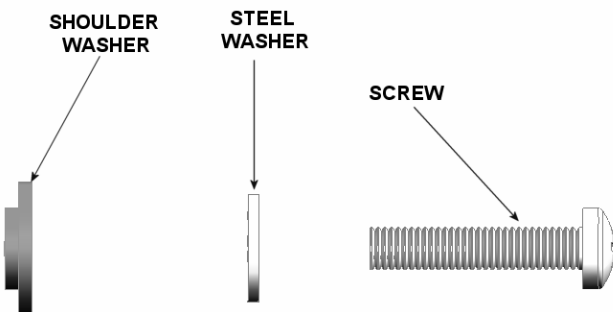
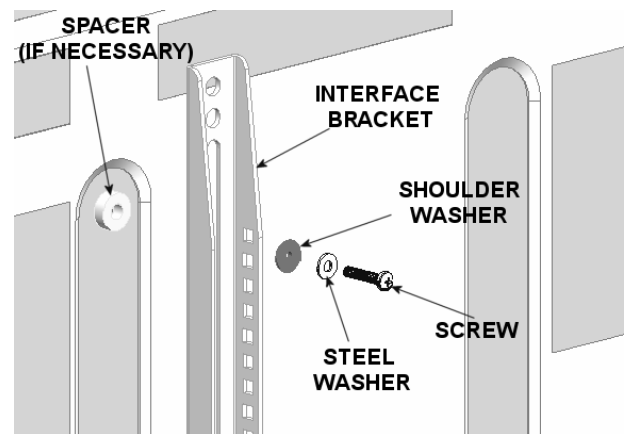

Figure 4. Attachment Parts
Figure 5. Attachment
2. Secure the left and right factory assembled interface bracket assemblies (20) to the display. Select the mounting hardware that fits your application. Read the following list and refer to Figure 4 and Figure 5.
- Use M6 screws (70 or 80) or M8 screws (40, 50, or 60), steel washers (160), and shoulder washers (200).
- Or, use M4 screws (120, 130, or 140) or M5 screws (90, 100, or 110) steel washers (150), and shoulder washers (190).